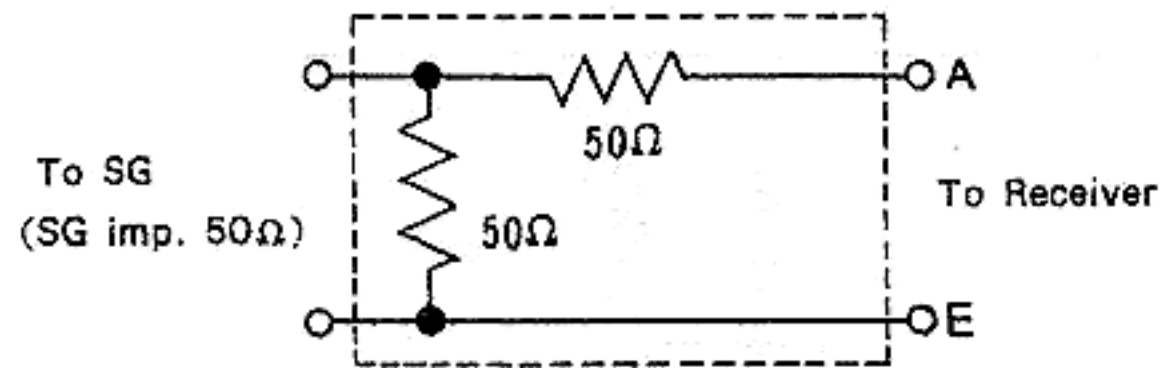

Fig. 14 FM Dummy Antenna
| (2) | FM | Connect to test point ▼ through FM dummy antenna. Negative side to test point ▼. (Refer to fig. 14.) | 87.2 MHz | Tuning capacitor fully closed. | Output meter across voice coil. | L29 (FM OSC Coil) | Adjust for maximum output. |